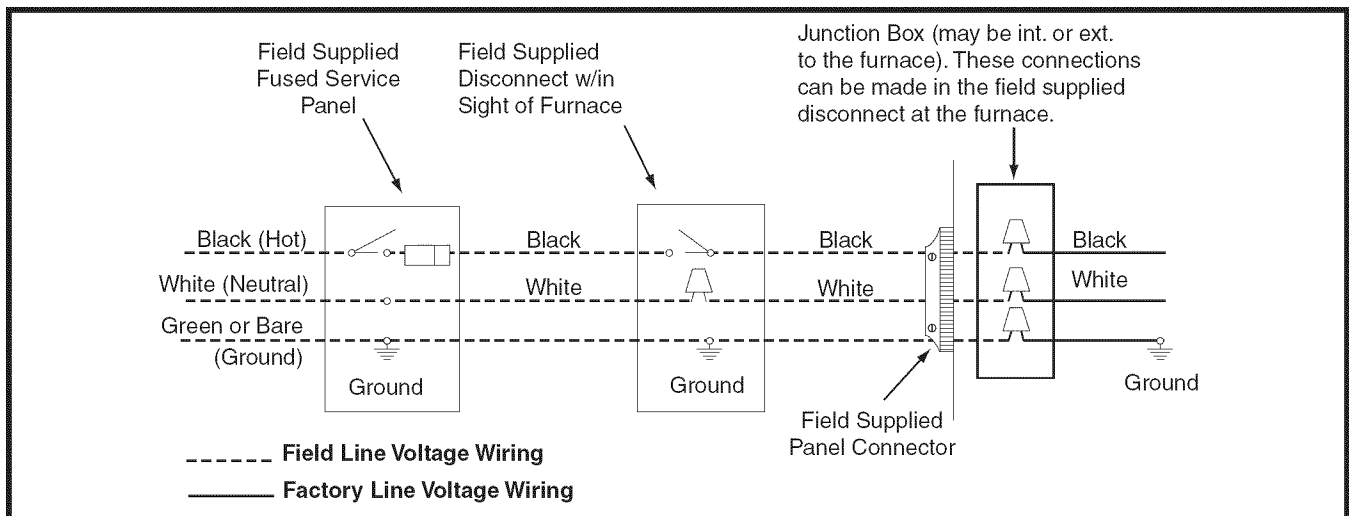
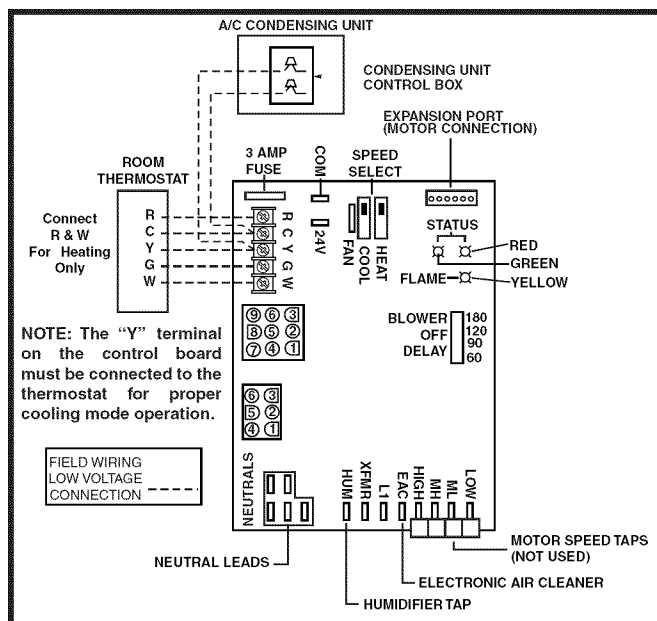

Figure 27. Line Voltage Field Wiring
Figure 28. Low Voltage Field, Four-wire Heating/Cooling Applications
An electrical disconnect must be installed readily accessible from and located within sight of the furnace. See Figure 27 or the wiring diagram label inside of the control door. Any other wiring methods must be acceptable to authority having jurisdiction.
to the black wire. The furnace will not operate unless the polarity and ground are properly connected as shown in Figure 27.
- The thermostat must be installed according to the instructions supplied by the thermostat manufacturer. Low voltage connections (24 VAC) from the thermostat are wired to the terminal strip on the integrated control in the furnace. Figure 28 contains the proper connections for heating only (two-wire) and heating/cooling (four-wire) applications. Recommended minimum wire gauge for thermostat wiring is shown in Table 5 (page 27).
- The six pin terminal marked "Expansion Port" (Figure 28) is not used in the single stage furnace as shipped from the factory. It is used for the furnace control board to communicate to a fixed speed or variable speed high efficiency motor that may be optionally installed. Please contact your distributor for the proper upgrade motor kit.
The operating sequences for the heating, cooling, and fan modes are described below. Refer to the field and furnace wiring diagrams: (Figure 27 page 27), (Figure 28, page 28) and (Figure 32, page 37).